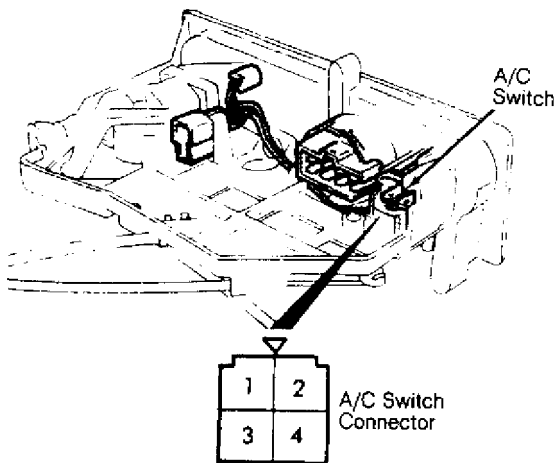

Fig. 1: Identifying A/C Switch Terminals
2) Ensure battery voltage is present at A/C switch connector terminal No. 3 when A/C switch is turned to ECONO position. Ensure battery voltage is present at A/C switch connector terminal No. 4 when A/C switch is turned to A/C position. See Fig. 1. If voltage is not as specified, replace A/C switch.
Disconnect A/C switch harness. A/C switch is located at left center of A/C-heater control panel. See Fig. 1. Using an ohmmeter, measure resistance between switch terminals. If resistance is not as specified, replace switch. See A/C SWITCH SPECIFICATIONS table.